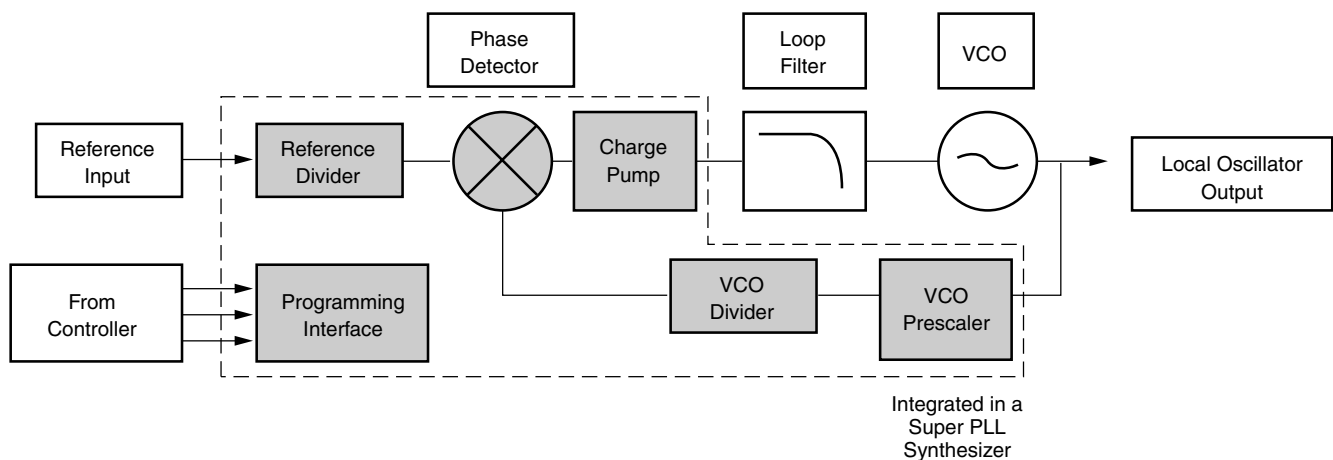

Figure 1. Simplified PLL Synthesizer
Fujitsu's Super PLLs are designed to be used in frequency synthesizers for programmable and fixed local oscillator generation in modern radio systems. Applications range from 1V, 100 MHz pagers to 3V operation for Global System for Mobile Communications (GSM), and other cellular and cordless standards. These standards include applications in the second ISM band between 2.4 GHz and 2.483 GHz. Figure 1 shows a simplified representation of a PLL frequency synthesizer. The shaded blocks represent those integrated in a Super PLL Integrated Circuit (IC).